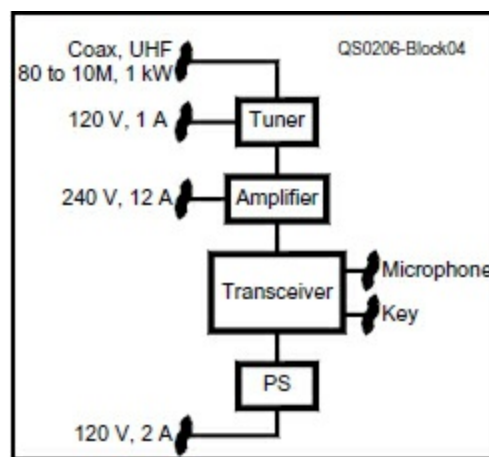
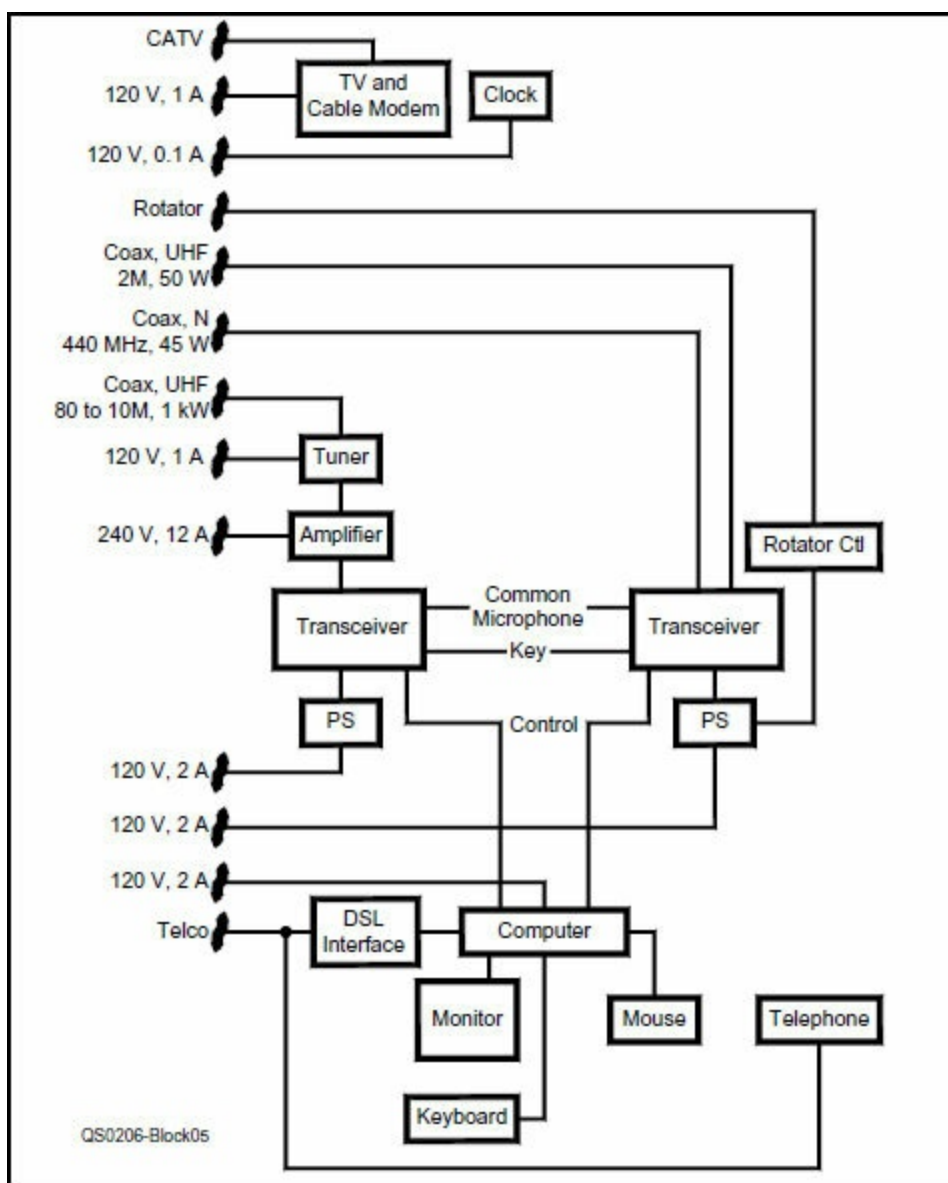

Figure 6.12 — Block diagram of a typical simple HF radio station.
Figure 6.13 — Block diagram of a typical more-complex radio station.
Add a rectangle to the diagram for each additional transceiver or amplifier in your station. Be sure to show all interconnections and antenna connections for each of these secondary rectangles. If any of the secondary radio equipment has a direct connection to an antenna, show the feed line going to the edge of the page. Be sure to label each rectangle with the manufacturer's name and model number and each feed line with connector type and gender, frequency range, and maximum transmit power. **Figure 6.12** shows a block diagram for a simple station. (This chapter assumes the station is for HF operation. The same planning process works for VHF+, too.)
10) Once you have completed the process for each of the rectangles, including all of the new ones that were added, you should have an accurate block diagram of your radio station. It may be prudent to review each rectangle to verify that nothing was left out. Your block diagram should look something between Figure 6.12 and **Figure 6.13**.